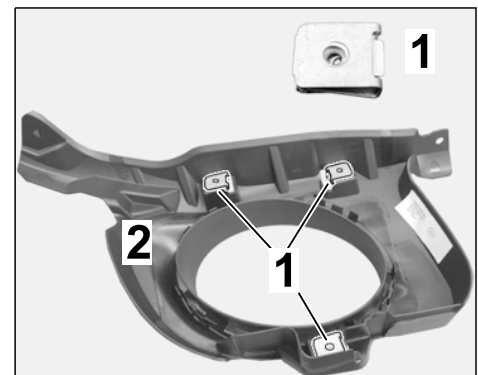

Figure 11
- 3.3.1 Fit new clamping sleeve, St 4.8 x 22 x 18 (3 ea.) on exhaust pipe cover (left ⇒ *Figure 11* /right).